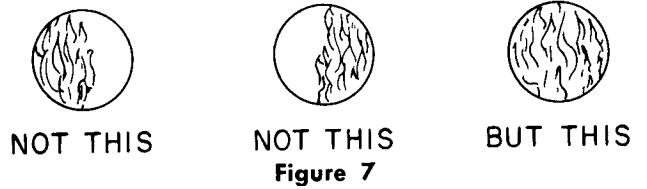

Figure 7
4. Both pilot and main flames must completely cover scanner field of view (Fig. 7).